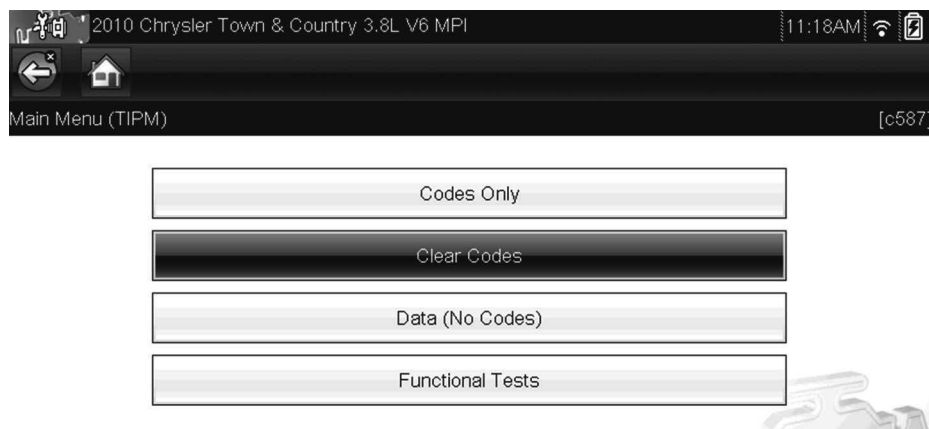

Figure 6 Typical - Clear Codes Menu Item (Solus Edge/Modis Ultra)
1. Select **Clear Codes** from the Codes menu (Figure 6).